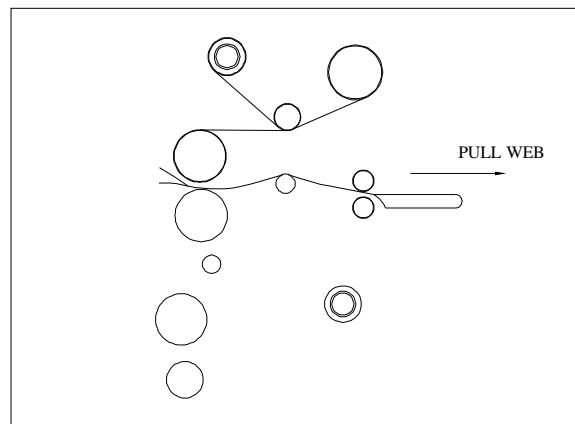

Figure 29
6. Carefully grab hold of the web (top and bottom film), from the back operating position and pull towards you (Fig. 29).